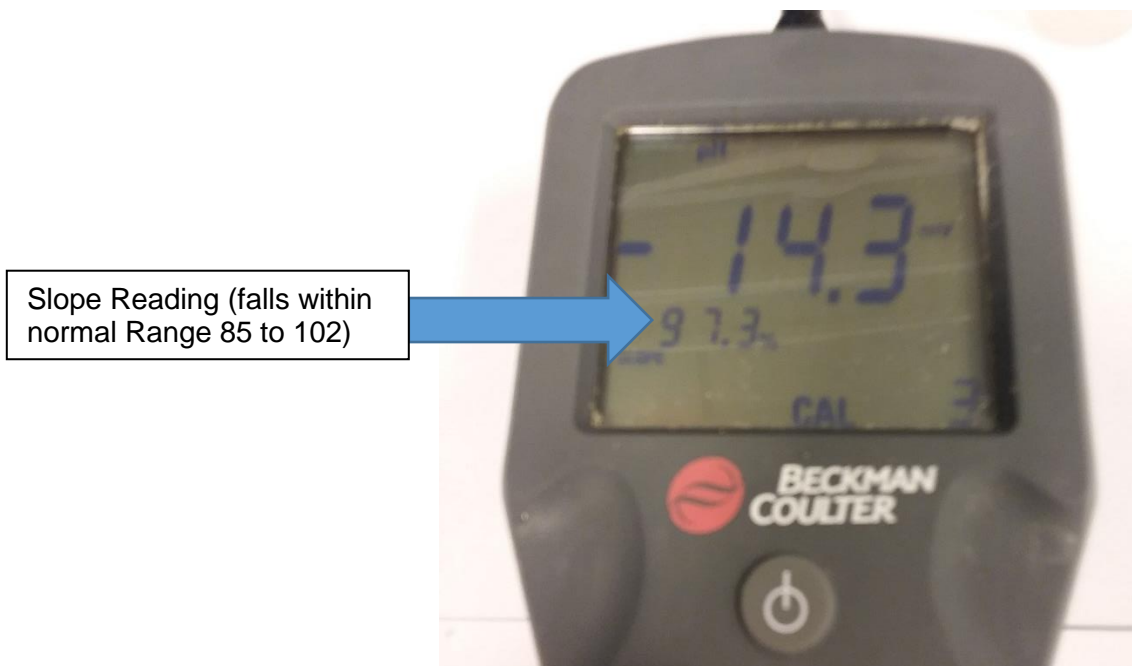

FIGURE 2
- Per the user's manual for this equipment, the slope shown on the meter must be between 85% and 102%. (See figure 2) If the slope is within the correct range, **press Enter to accept the calibration**. If the slope is not within the correct range, do not use the meter. Refer to Section 4 Troubleshooting, Table 3.